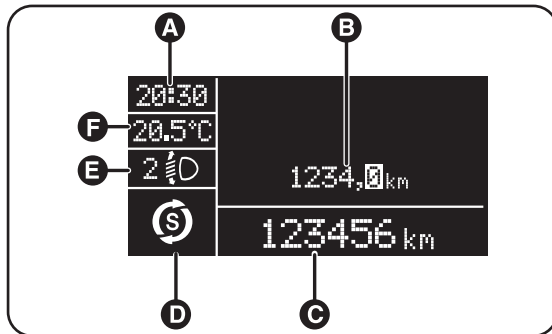

fig. 7
**ECRAN "STANDARD" ECRAN MULTIFONCTION RECONFIGURABLE fig. 7**